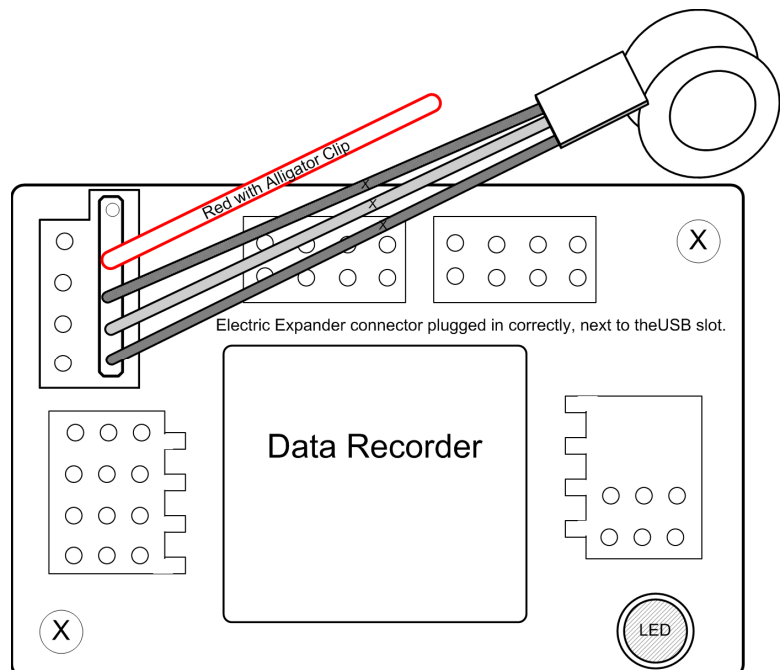

Figure 1a
Connect the polarized, 5 pin Electric Expander connector to the recorder as shown in Figure 1a. NOTE: The plug is a tight fit – slightly tilting the 5 pin connector back toward the center of the Recorder can aid installation. If
***EXTREMELY IMPORTANT:*** The Electric Expander Connector **\*\*MUST\*\*** be connected correctly to your Recorder, or severe damage to the Recorder and other equipment could occur, which will void the warranty. The Expander connects as shown in Figure 1A, to the right of the USB connector, with the RED wire of the connector facing UP. If you are uncertain as to how to connect the expander, don't hesitate to email us at support@eagletreesystems.com!